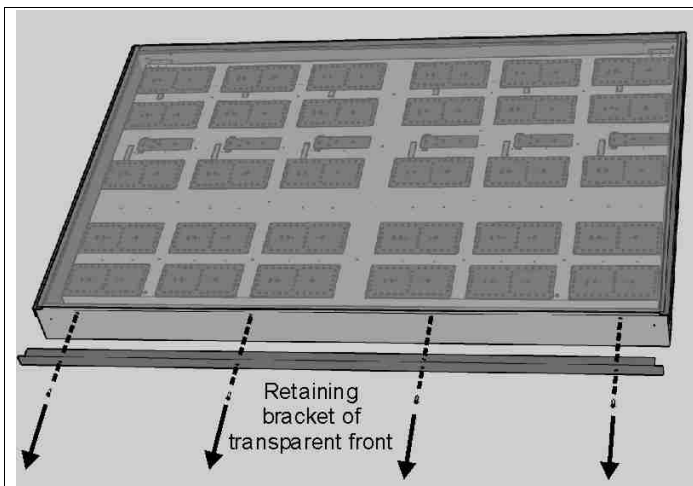

Fig. 12: Front panel screws
2. With a Phillips screwdriver remove a side bracket from the module containing the board in need of replacement; do this by unscrewing the screws located on the side bracket (Fig. 12).